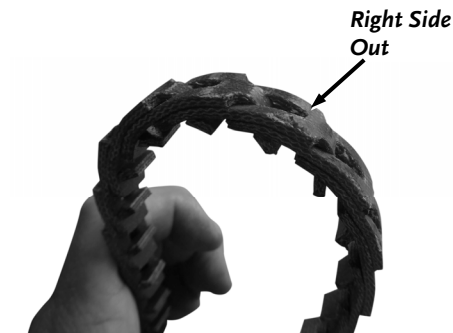

Figure 27
6. Flip the Belt back to be right side out (**Figure 27**).